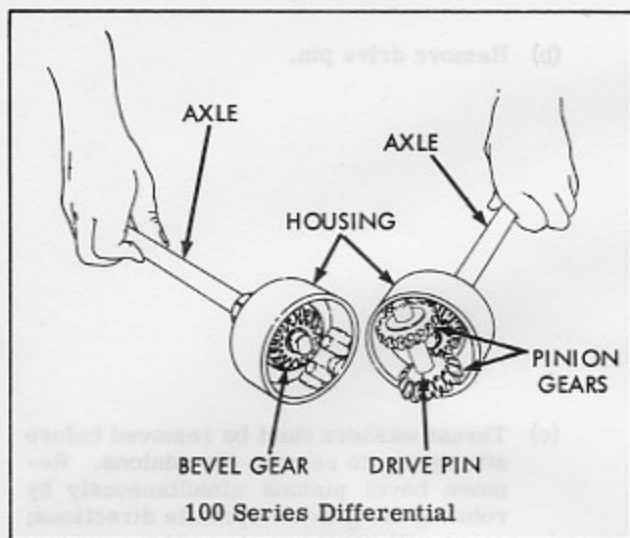

Figure 8-2
- (c) Remove drive pin, pinion gears and thrust washers as a unit. See Figure 8-2.
- (d) Remove snap ring, bevel gear and thrust washer. Slide axle from differential carrier housing. See Figure 8-2.